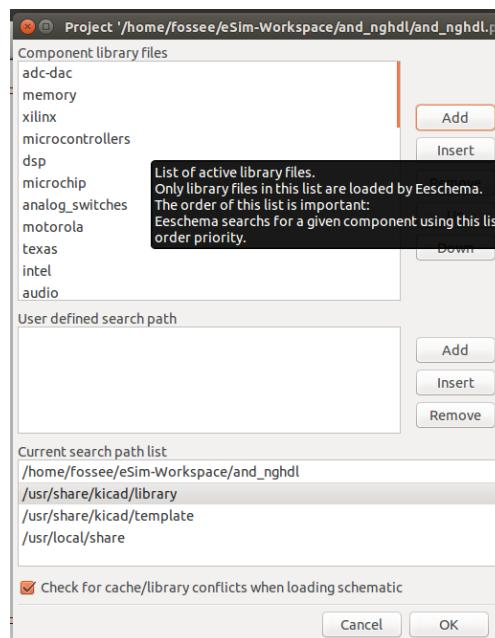
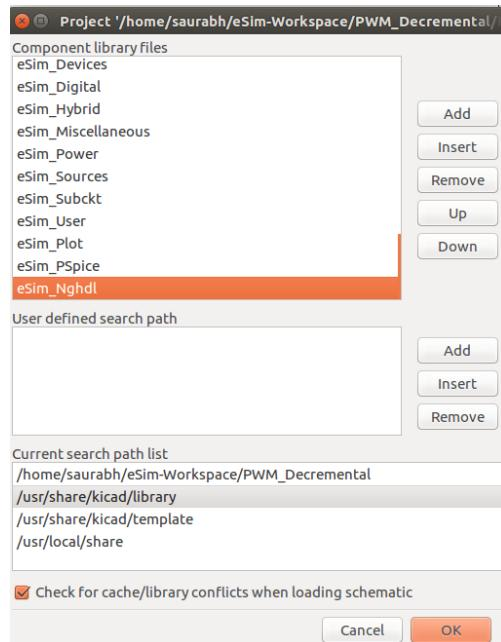

Figure 9.6: Adding the digital model library in KiCad
Figure 9.7: Selection of library
2. After successful upload of the model using the VHDL code, you can create the schematic of your design by clicking on Open Schematic button on the left pane of the eSim window. Then go to Preferences option on top of the schematic editor window and click on Component Libraries to add the library eSim_Nghdl.lib in KiCad. Following window will appear as shown in Fig. 9.6, where you will have to
click on *Add* button and select the **eSim_Nghdl** library. Refer Fig. 9.6 and Fig. 9.7.